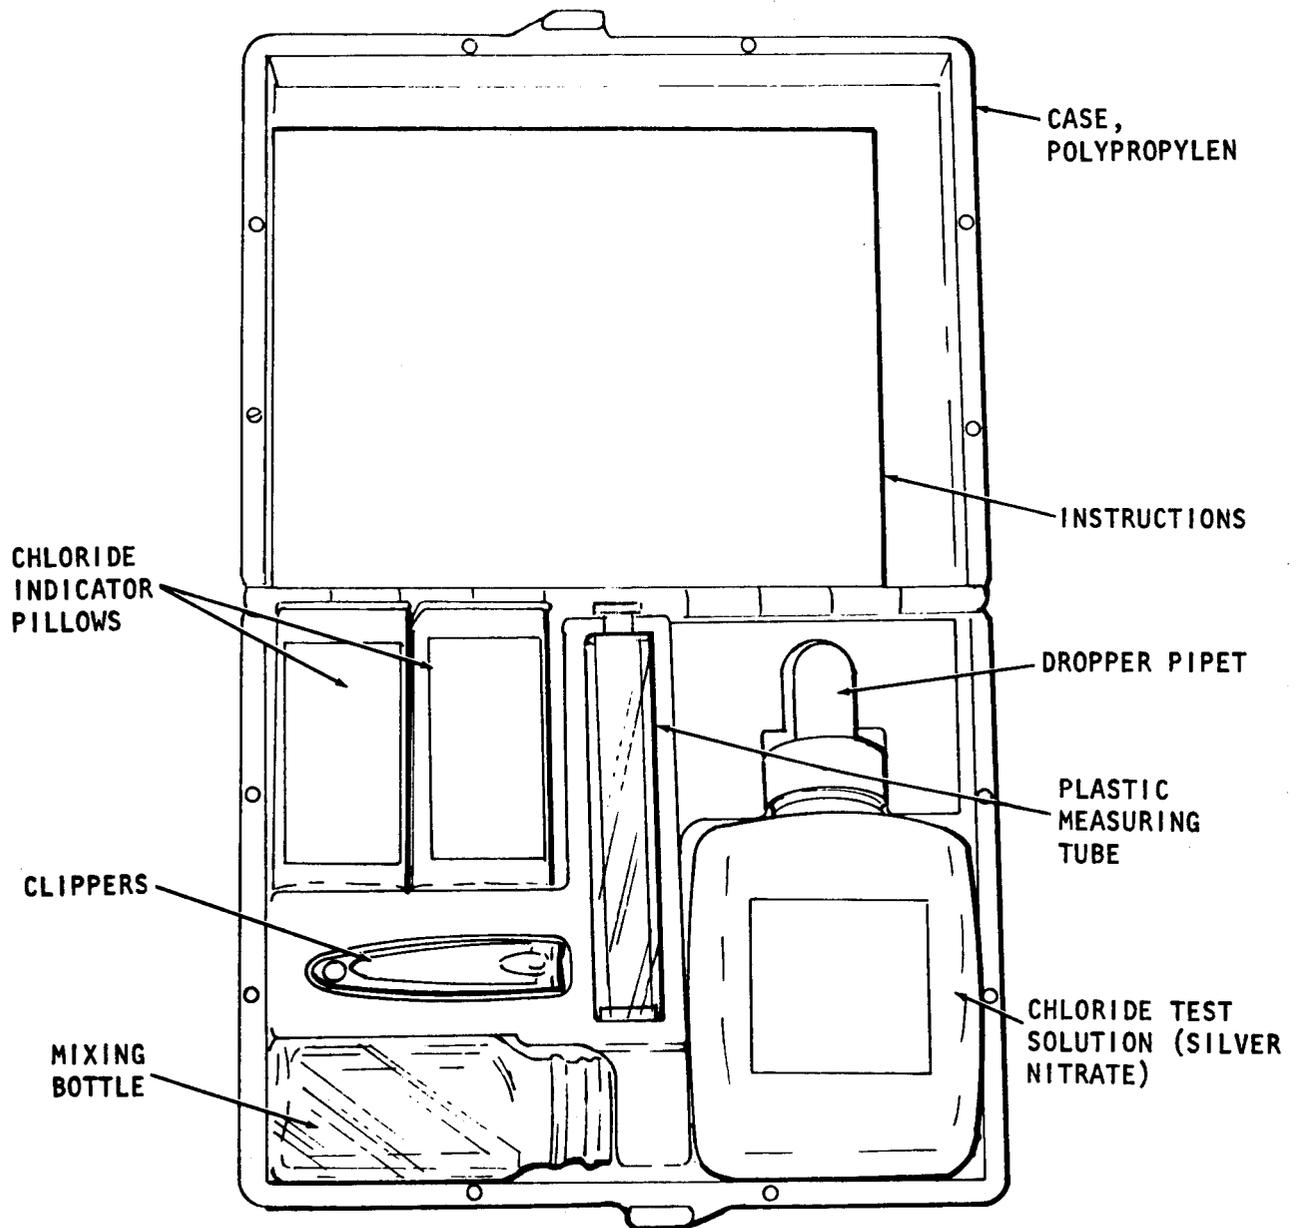

Figure 2-6. High Range Chloride Test Kit
b. Chloride Test Kit High Range 1,000 to 20,000 mg/l (fig. 2-6).
(1) Chlorides are present in all potable water supplies and in sewage, usually as a metallic salt. When sodium is present in drinking water, chloride concentrations in excess of 250 mg/l give a salty taste. If the chloride is present as a calcium or magnesium salt, the taste detection level may be as high as 1000 mg/l chloride.